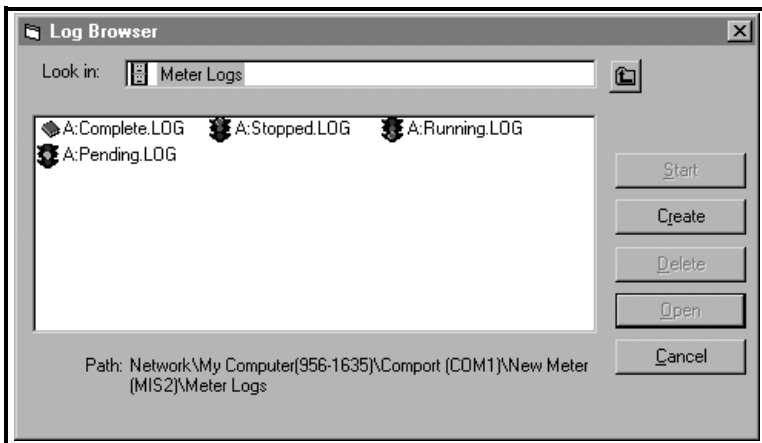

Figure 6-26: Selecting a Log File
2. Advance to either the “*PC Logs*” or “*Meter Logs*” dialog box as described in previous sections. Using a meter log as an example, a screen similar to that shown in Figure 6-26 below appears.
Notice that each of the log files in Figure 6-26 above has a traffic light icon or a book icon next to its name. These icons indicate the current status of the log as follows:
- *book* - the log has run to its specified stop time and is complete (A:Complete.LOG in Figure 6-26)
- *red light* - log has not run to its specified stop time but has been manually stopped (A:Stopped.LOG in Figure 6-26)
- *yellow light* - log has been set up but the specified start time has not yet been reached (A:Pending.LOG in Figure 6-26)
- *green light* - log is currently running but is not yet complete (A:Running.LOG in Figure 6-26)